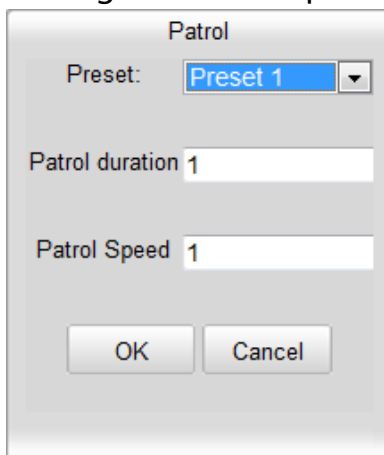

Figure 4-8 Adding Presets
3. Click  to enter the adding interface of preset, as shown in Figure 4-8.